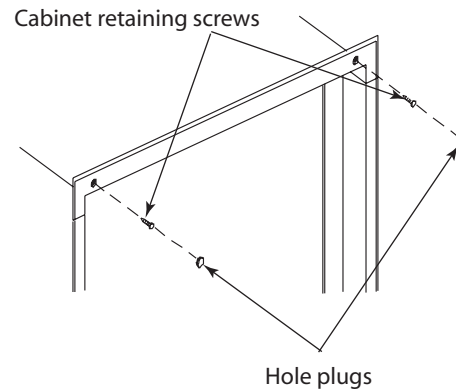

Figure 32. Top retaining screws and hole plugs.
8. Remove two hole plugs from the top trim. See Figure 32, page 44.
9. Remove two top cabinet retaining screws. See Figure 32, page 44.
5. Secure the top of the cabinet with two screws and install hole plugs. See Figure 32.